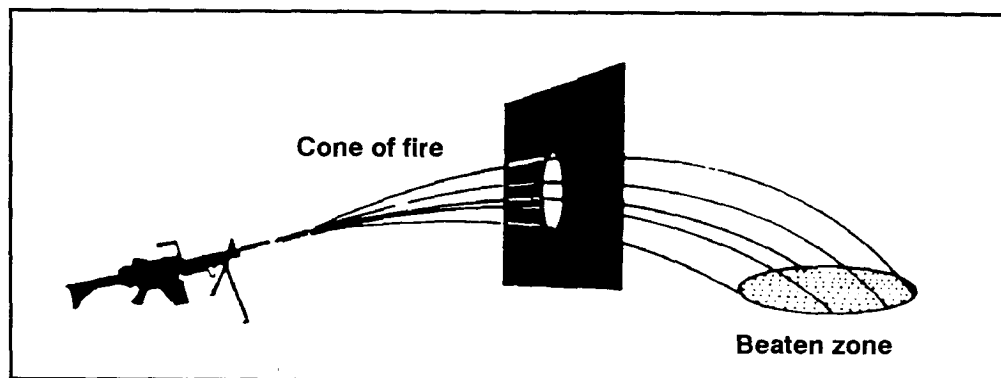

Figure 6-2. Cone of fire and beaten zone.
c. **Cone of Fire.** When several rounds are fired in a burst from an M249 AR, each round takes a slightly different trajectory. The pattern these rounds form on the way to the target is called a cone of fire (Figure 6-2). This is caused primarily by vibration of the weapon and variations in ammunition and atmospheric conditions.
d. **Beaten Zone.** The beaten zone (Figure 6-2) is the elliptical pattern formed by the rounds striking the ground or the target. The size and shape of the beaten zone changes when the range to the target changes or when the weapon is fired on different types of terrain. On uniformly sloping or level terrain, the beaten zone is long and narrow. As the range to the target increases, the beaten zone becomes shorter and wider. When fire is delivered on terrain sloping down and away from the weapon, the beaten zone becomes longer. When fire is delivered on rising terrain, the beaten zone becomes shorter. The terrain has little effect on the width of the beaten zone.